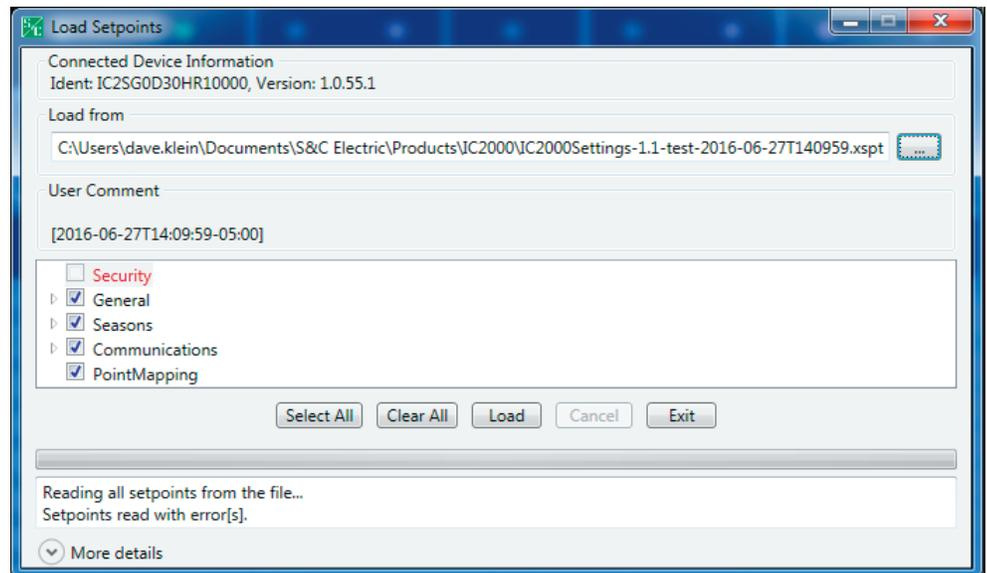

Figure 17. The Load Setpoints setting type selection dialog box.
- STEP 5.** To upgrade a device with a converted settings file, connect to the device with IntelliLink software, and choose the **Load Settings** option. See Figure 17. Choose the file to load, and select which groups of settings to load.